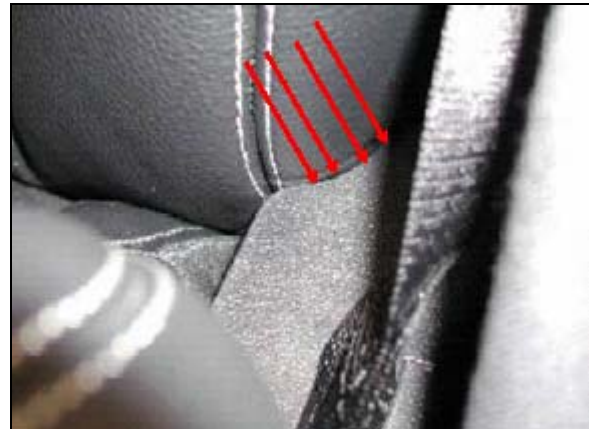

Figure 15
Rubbing noise where the seat cover contacts the trim cover (Figure 15, arrows)
2. Apply special sliding compound (A000 989 36 60) to the inside of the trim cover (Figure 15, arrows).